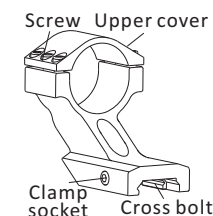

Fig3 Mount bracket
1. The mounting bracket (Fig 3) is for attaching the sight to the weapon. The sight comes with mounting bracket attached.
- 2) Insert included Torx wrench into the clamp socket, then rotate to loosen the cross bolt (as shown in Fig 3). Slide the sight into the weapon rail to an appropriate position, and finally tighten the clamp screw.